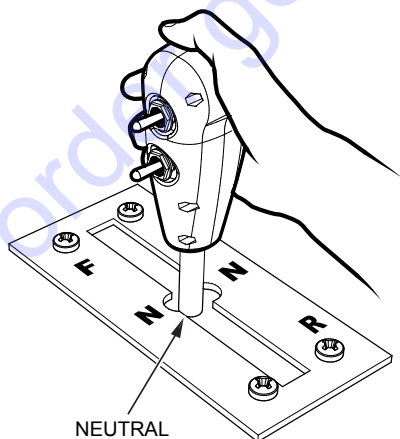

Figure 18. Travel Lever (Neutral)
4. Make sure that the roller's travel lever (Figure 18) is placed in the neutral position.